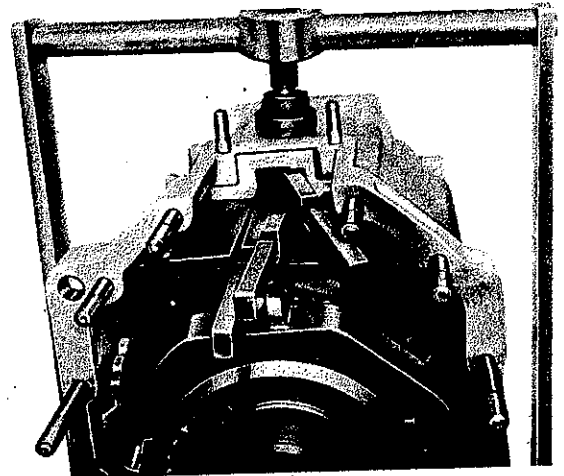

Fig. 47
3. Attach shift rod 1st - reverse gear (602) with bolt into bore of shift fork (608) first. Then rod 2nd - 3rd gear (601) and finally shift rod 4th - 5th gear (601), refer to Fig. 47.